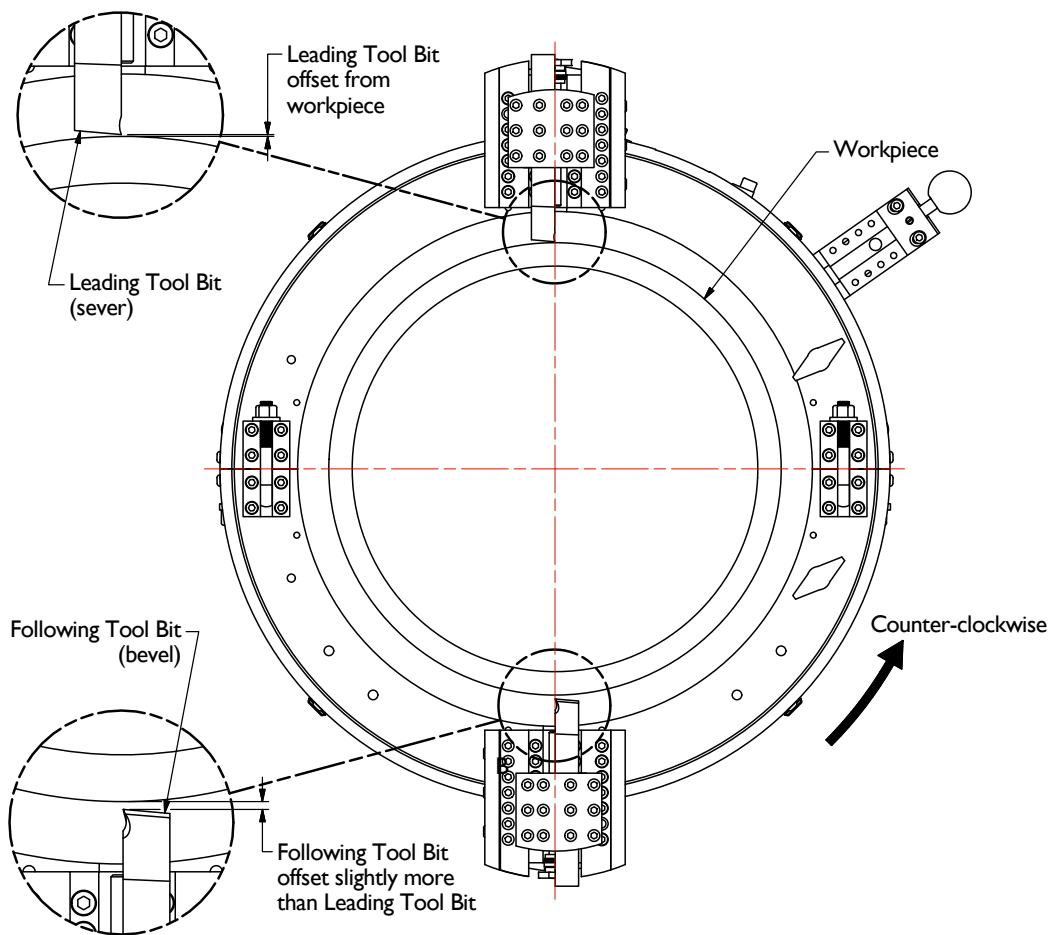

Figure 12 - Set Leading/Following Tool Bits
15. Back the following tool bit away from the workpiece slightly more than the leading tool bit. This will allow the leading tool bit to begin the cut before the following tool bit. As the cut is made further tool bit adjustment may be required. See Figure 12.